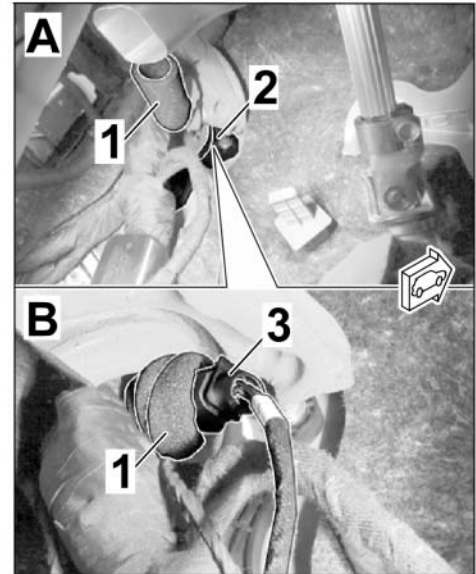

Figure 28
- 3.1.1 Expose the connection point (preparation = socket connector, 6-pin) in the passenger compartment of the vehicle, area of bulkhead grommet, A-pillar left (⇒ *Figure 28*).
- 3.1.3 Establish a connection between the plug connection preparation and the wire harness for the exhaust flaps (6-pin) ⇒ *Figure 28*.